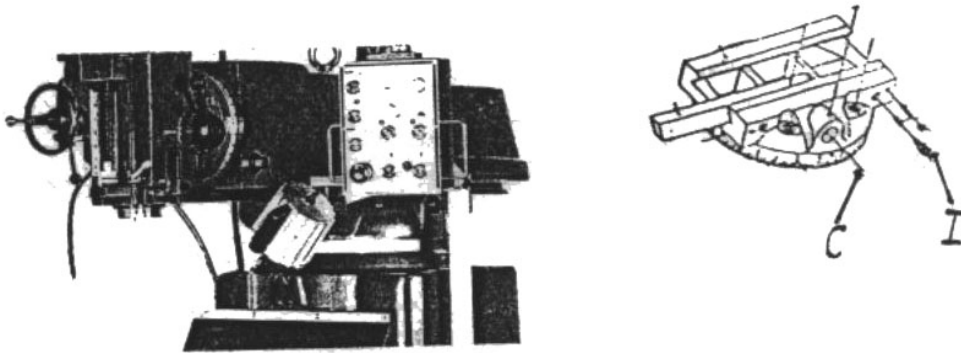

Fig10-6
- a. Loosen the knee clamp lever (G) (vide Fig.10-6).
- b. Take off the wiper holder (Q).
- e. Use a screw driver to adjust the gib screw (R) of the knee.
- g. Restore and lock up the wiper holder (Q).